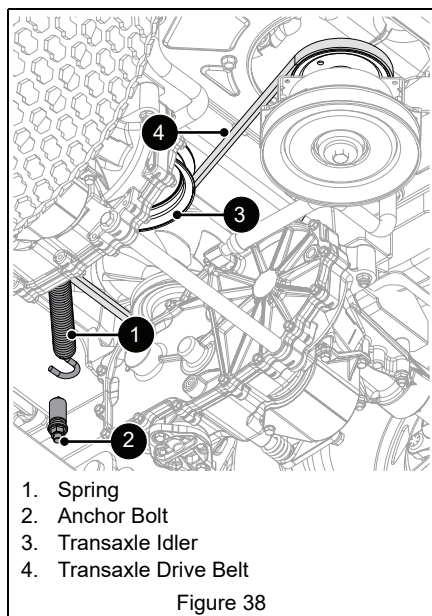

Figure 38
3. Under unit, slowly remove spring hook from anchor bolt to release transaxle idler tension. See Figure 38.